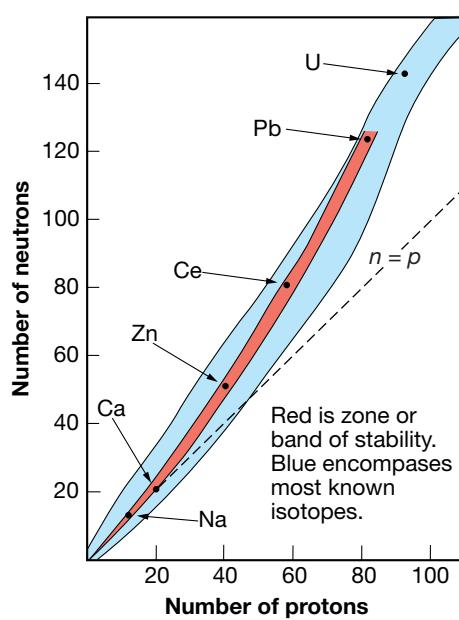

FIGURE 3.1
If we plot the number of neutrons against the number of protons in the nucleus for isotopes that are stable we find, as shown in Figure 3.1, all the points lie in a narrow band—the red shaded area. We say that they all lie in a **zone (or band) of stability**.
- if its ratio of neutrons to protons places it outside the zone of stability of Figure 3.1.